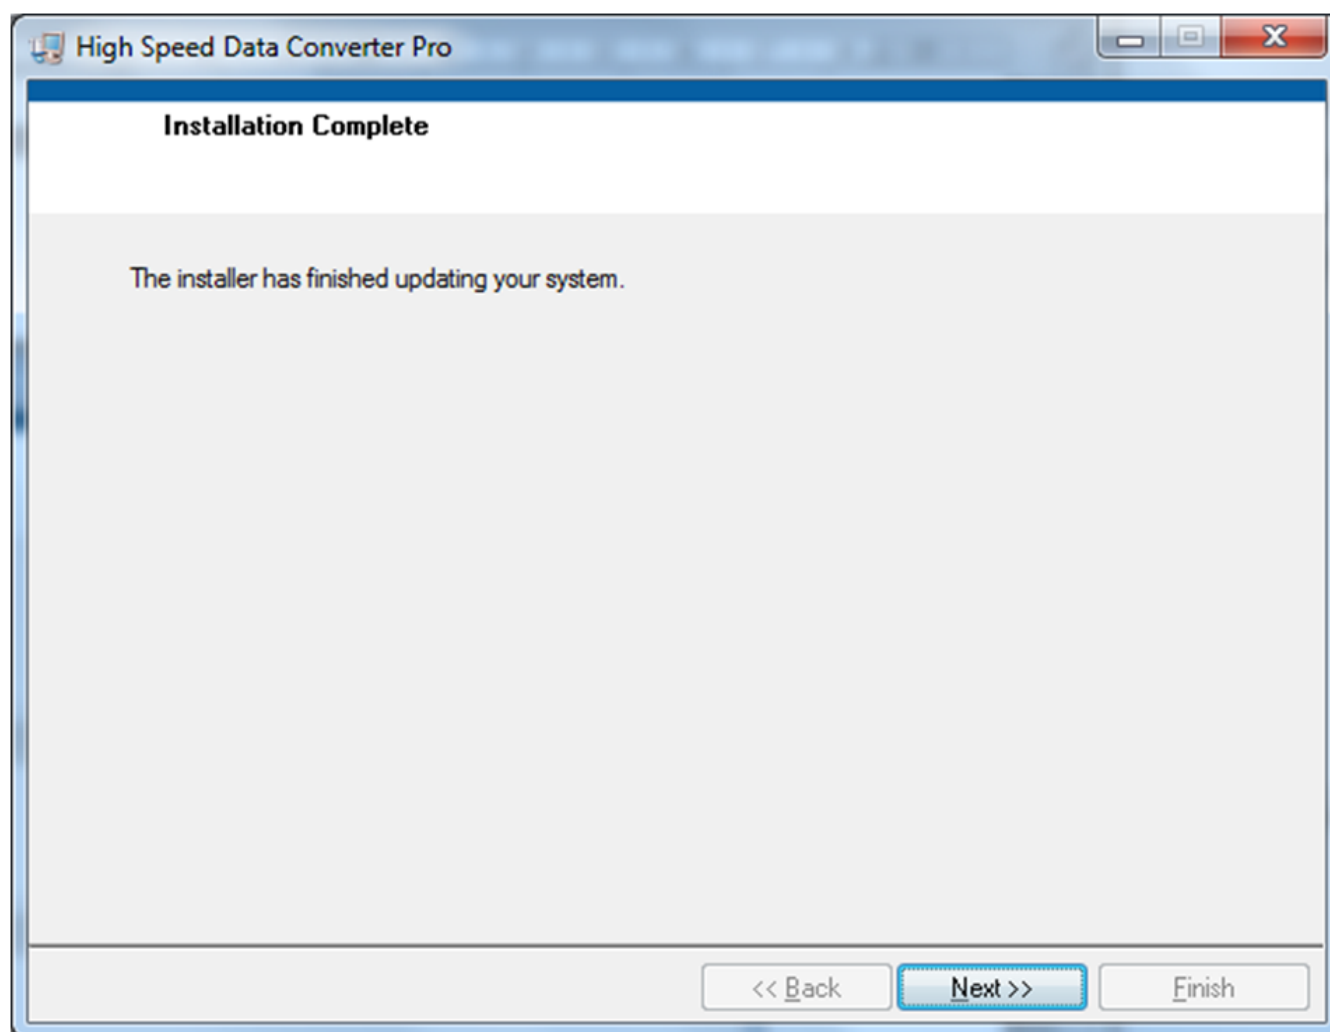

Figure 27. HSDCPro Install (Installation Complete)
- The window shown in Figure 27 appears indicating *Installation Complete*. Press the *Next* button.